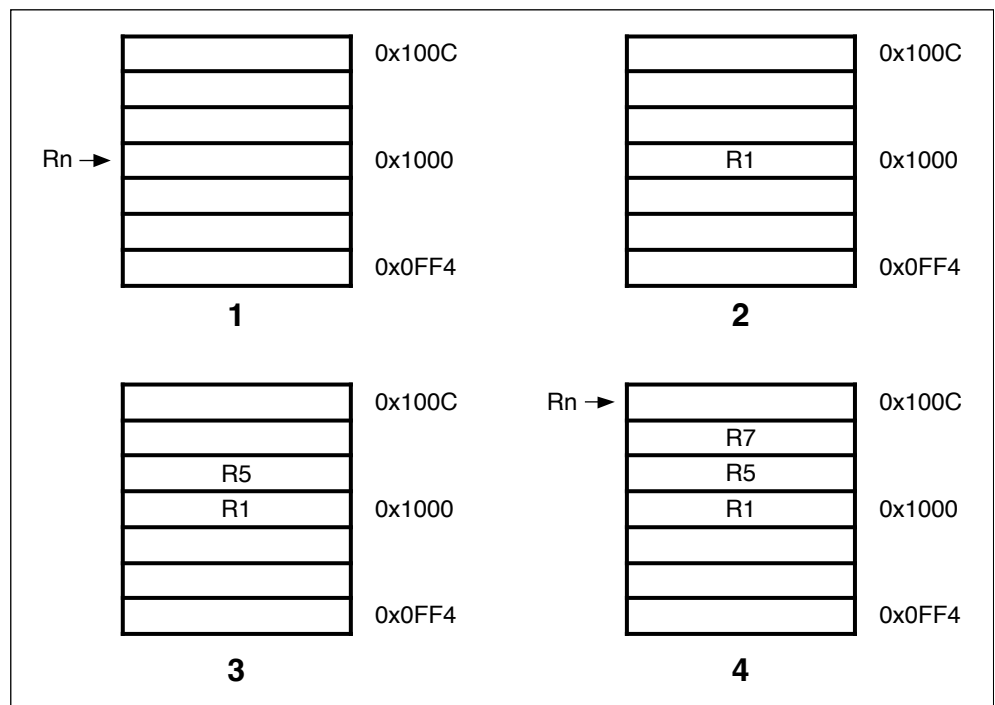
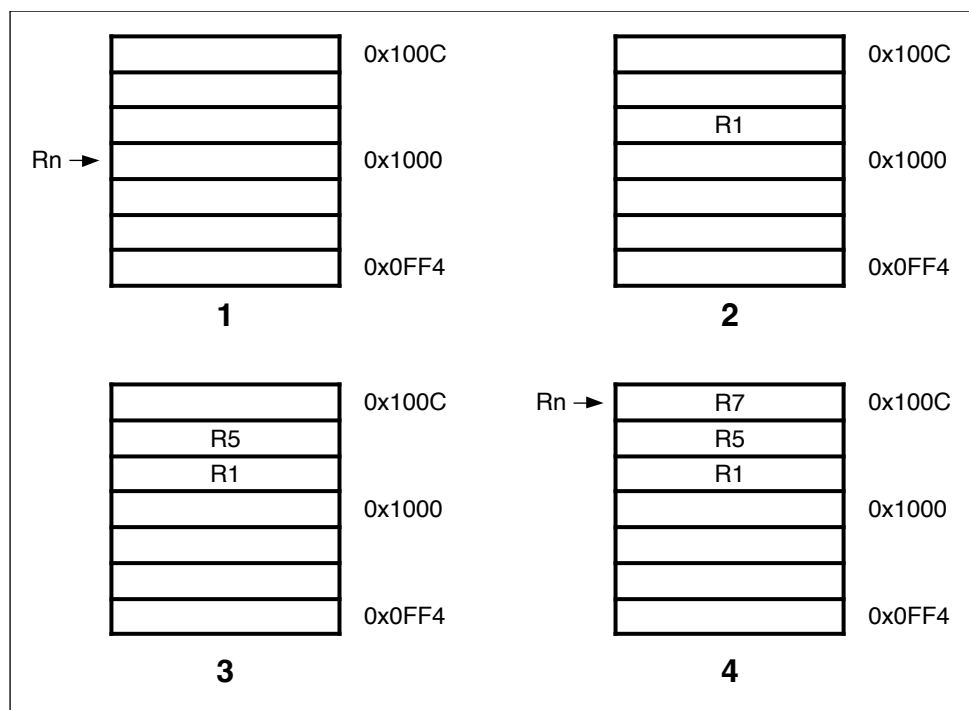
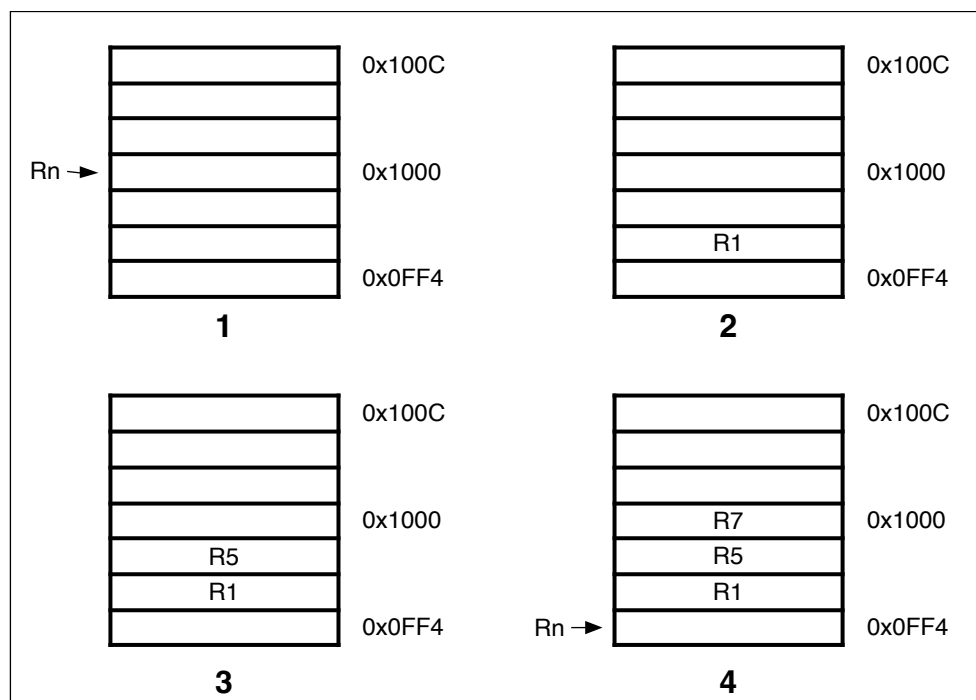
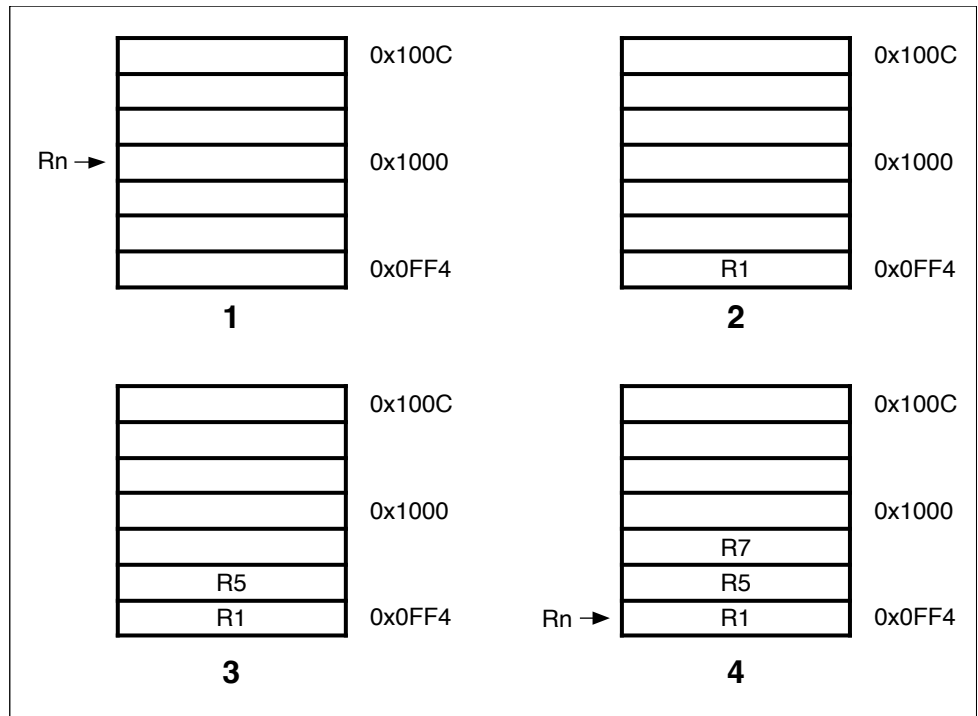

Figure 4-19: Post-increment addressing
Figure 4-20: Pre-increment addressing
Figure 4-21: Post-decrement addressing
Figure 4-22: Pre-decrement addressing
The transfer addresses are determined by the contents of the base register (Rn), the pre/post bit (P) and the up/down bit (U). The registers are transferred in the order lowest to highest, so R15 (if in the list) will always be transferred last. The lowest register also gets transferred to/from the lowest memory address. By way of illustration, consider the transfer of R1, R5 and R7 in the case where Rn=0x1000 and write back of the modified base is required (W=1). ↪Figure 4-19: Post-increment addressing, ↪Figure 4-20: Pre-increment addressing, ↪Figure 4-21: Post-decrement addressing and ↪Figure 4-22: Pre-decrement addressing show the sequence of register transfers, the addresses used, and the value of Rn after the instruction has completed.